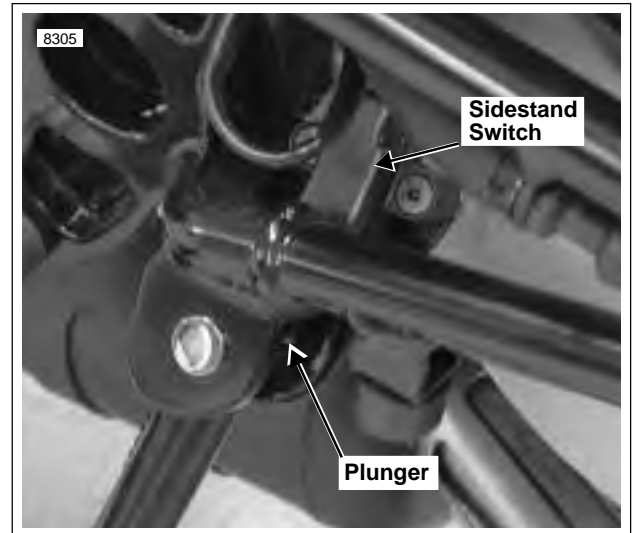

Figure 4-28. Side Stand Switch
- By retracting the side stand and grounding the relay through the side stand switch. See Figure 4-28.